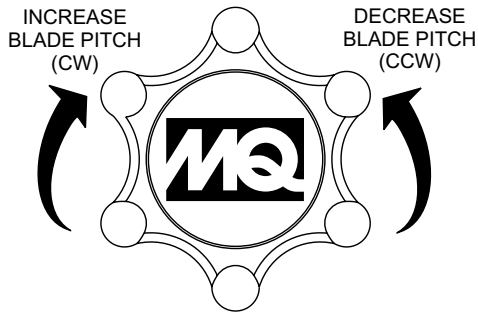

Figure 8. Adjusting Cable 4-Blade Pitch (Standard Handle)
1. For trowels equipped with a **Standard** handle (SXHC), simply turn the **star wheel** counterclockwise to pitch the blades flat. This will release the tension on the blade pitch cable (Figure 8).